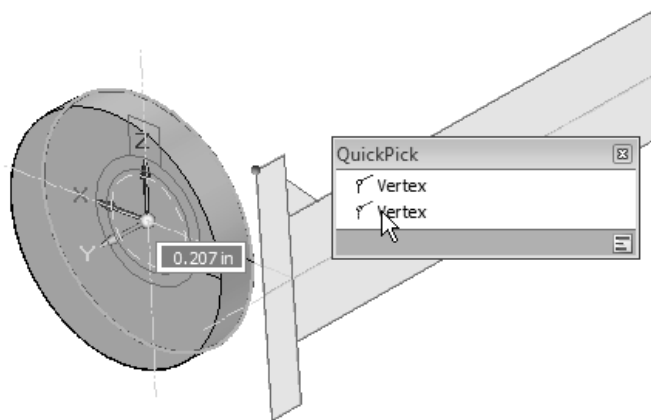

Figure 12-50 Preview of the first feature
- Create a rib, refer to Figures 12-50 and 12-51 .
2. Move the cursor toward the front view and snap to the endpoint of the first line segment to define the height of the cylinder, as shown in Figure 12-50. Click when the extrusion height snaps to the endpoint; the first feature is created.